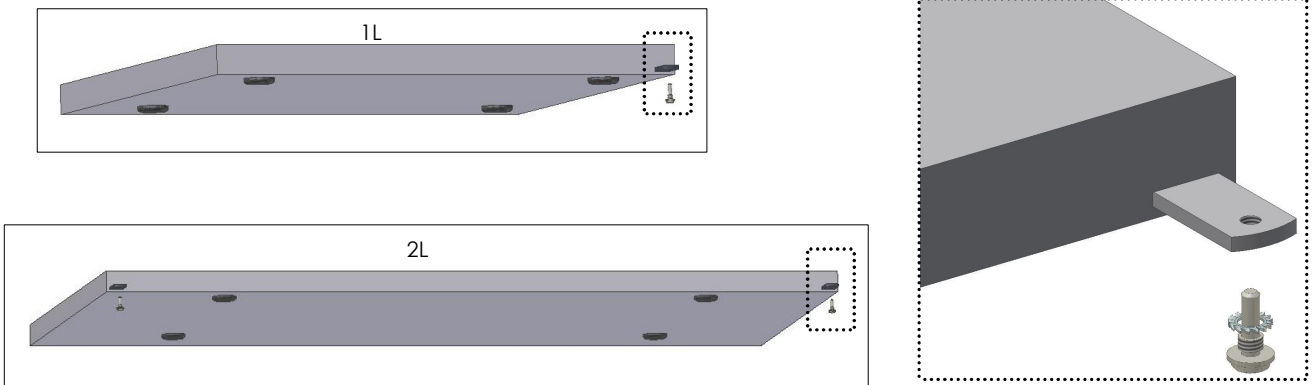

Fig. 1
- Insert the inferior stud-pins with serrated lock washer in the fixing support of the door (Fig. 1);